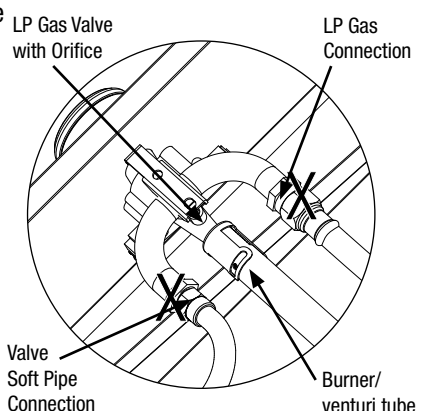

Figure 3
- Make sure control knobs are in the "OFF" position (Figure 3).
3. All control knobs must be in the 🔥 OFF position (Figure 3).